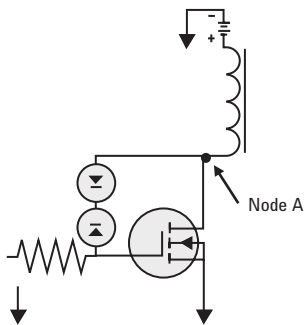
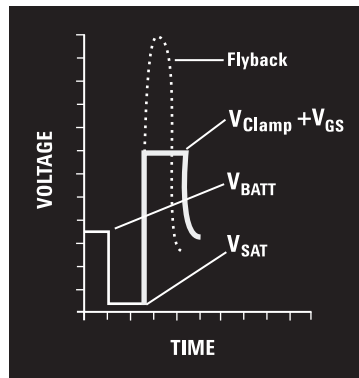

Figure 3: Typical lowside solenoid driver
Figure 4: Voltage profile of solenoid deactivation
In order to control the wheel from slipping during an ABS event, braking pressure is modulated by the control of solenoid drivers (see Figure 3). ABS/TC response abilities ultimately rest with the ECM's ability to control the state of the solenoid-driven valves. Typical measurements of interest include the saturation and flyback voltage, driver leakage current and the ECM microcontroller ADC input recapture accuracy.
Saturation voltage (see Figure 4) is important for characterizing the health of the solenoid driver electronics. Typical saturation voltage values range from 0.5–1V.
*Saturation voltage, as seen in Figure 4, is measured at the solenoid output (node A in Figure 3) just after turning on the solenoid driver. This voltage is easily measured with a DMM or by using a digitizer (ADC) and maybe followed by serial interrogation of the ECM to determine the voltage it measured.*
The inductive nature of the solenoids causes considerable voltage flyback when the solenoid is turned off (see Figure 4). If left unclamped, the flyback voltage can reach levels as high as 200 to 300 V, which must be limited to protect the solenoid driver. Typical clamp voltages are in the 40 to 60 V range.